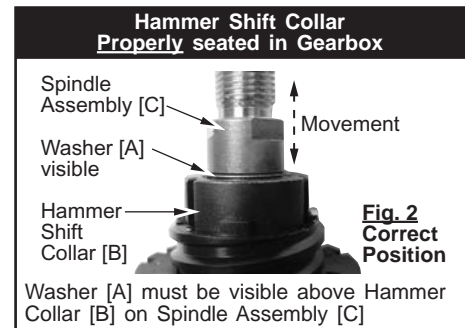

Fig. 2 Correct Position
- Washer [A] visible above hammer shift collar, (fig. 2).
Rotate shift collar left or right by hand until it drops into position shown in (fig. 2). The washer must be visible, and the .160 wide shift collar notch [1] must be in-line or slightly left of top 12 o'clock position, as viewed from the front of the gearbox.
If Washer [A] is not visible, turn collar left or right by hand until it drops into position shown on [fig. 2]. Only one position will allow Hammer Shift Collar to drop down.
- Turn clutch ring assembly to position shown in fig. 2 to view internal clutch ring posts [C,D,E] for correct position prior to assembling clutch ring to gearbox.